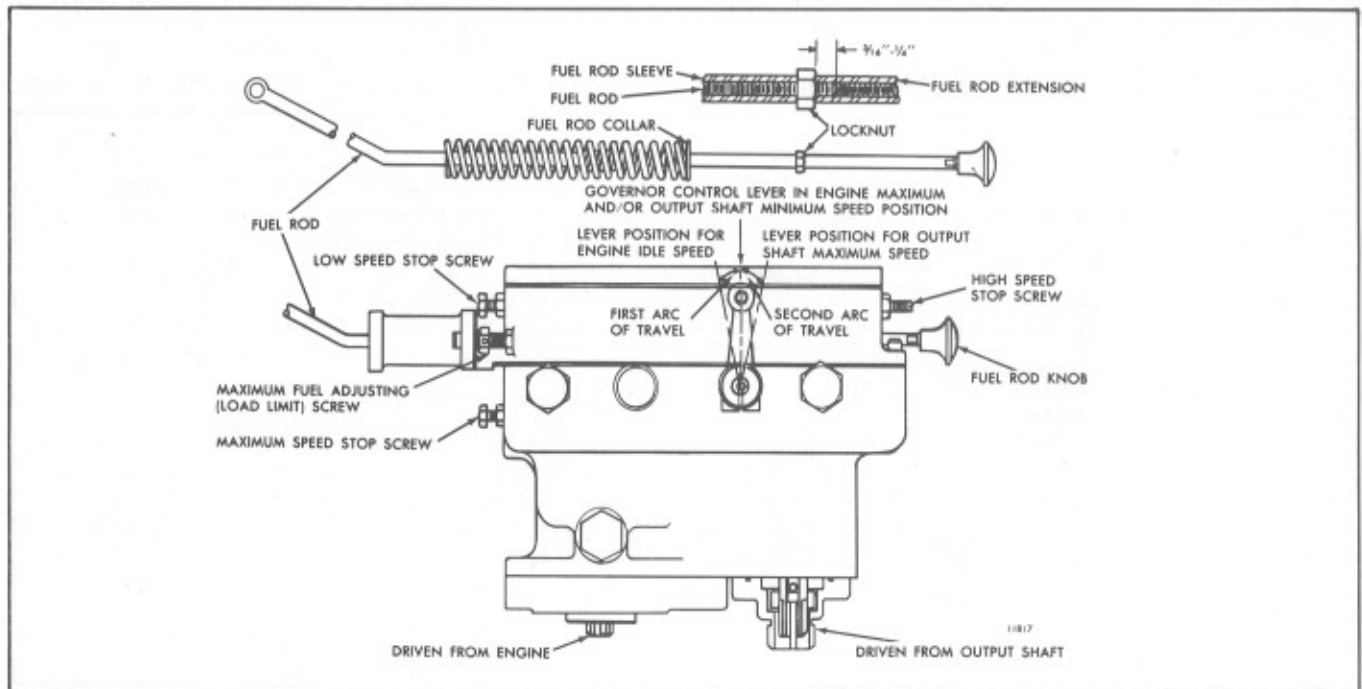
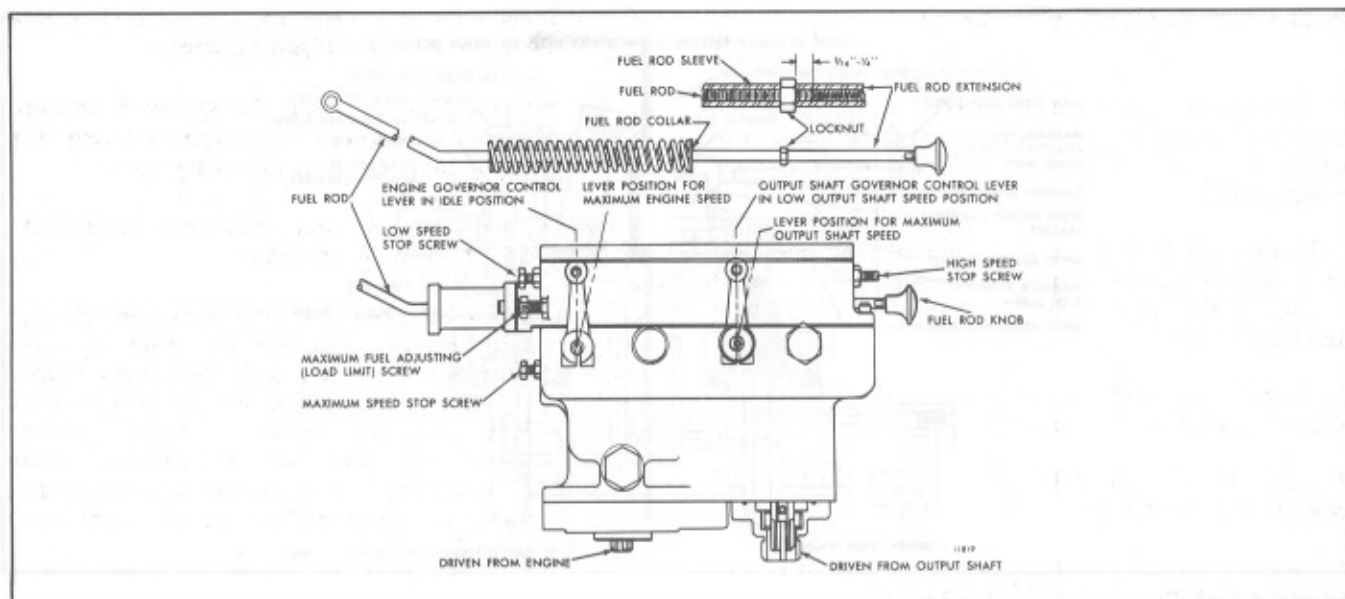

Fig. 1 - Single Lever Dual Hydraulic Governor
Fig. 3 - Two Lever Dual Hydraulic Governor
A dual hydraulic governor assembly is used with certain torque converter applications. This governor consists of two sets of flyweights and pilot valve assemblies that are interconnected to operate a single servo piston. One set of flyweights is driven by the engine. The other set is driven through a flexible shaft by the output shaft. The governor assembly used on a particular engine may have either single (Fig. 1) or dual (Fig. 3) speed control levers.
The control lever, on the single lever type governor, is attached to the output shaft governor speed adjusting shaft (Fig. 1). The engine governor and the output shaft governor speed adjusting shaft arms are linked together by a "slip-joint" link (Fig. 2).
Pull out the fuel rod knob (Figs. 1 and 3) when it is necessary to stop the engine.
2. Loosen the lock nut on the engine governor load limit adjusting screw (Fig. 1). Back the screw out until the end of the screw is flush with the face of the boss and tighten the lock nut.
On dual lever type governor assemblies, position the output shaft governor control lever, using the remote throttle control, in the low output shaft speed position (Fig. 3).